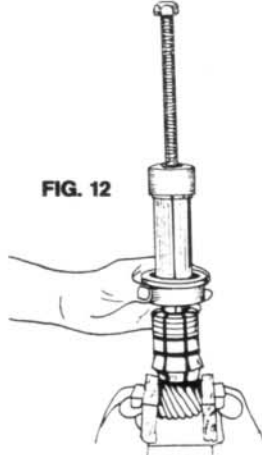
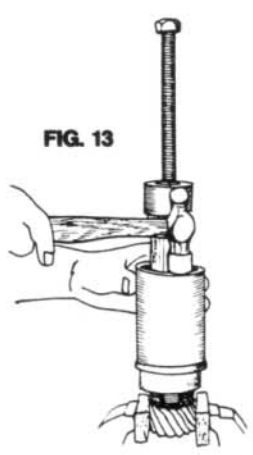

FIG. 12
FIG. 13
**NOTE: TAP COLLAR CLAMP RING DOWN LIGHTLY AS SHOWN IN (FIG. 13). COLLAR CLAMP RING MUST BE SECURE AND LEVEL ONTO COLLET PULLER. COLLAR CLAMP RING MUST BE BELOW TOP O-RING BEFORE REMOVING CONE.**
7. Place #2 COLLAR CLAMP RING over COLLET PULLER ASSEMBLY (Fig. 12) and tap down using PLASTIC TUBE and hammer. (Fig. 13)